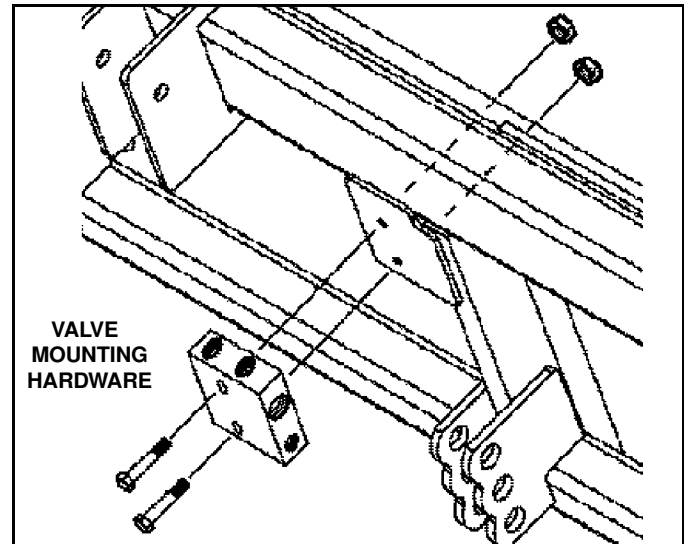

Figure 1-21
5. Attach the cross over relief valve to the adaptor plate using the two bolts. (See Figure 1-21)